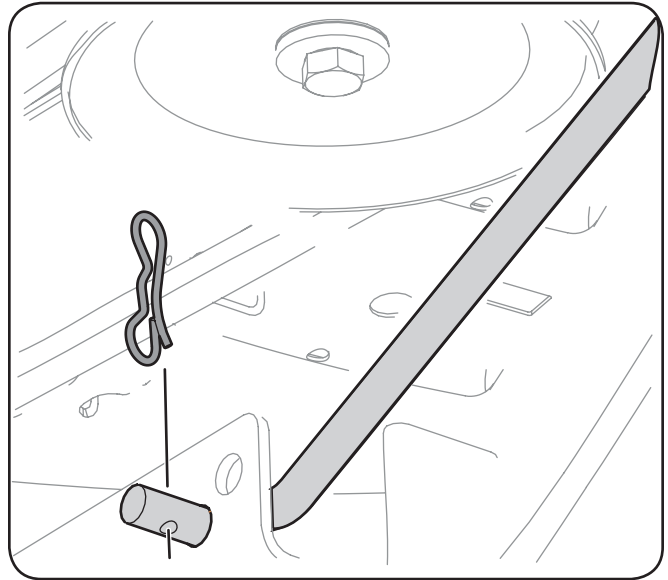

Figure 7-4
13. Pull the pin out of the front deck lift rod securing it to the deck. See Figure 7-4. Slide the deck lift rod out of the front hanger bracket.